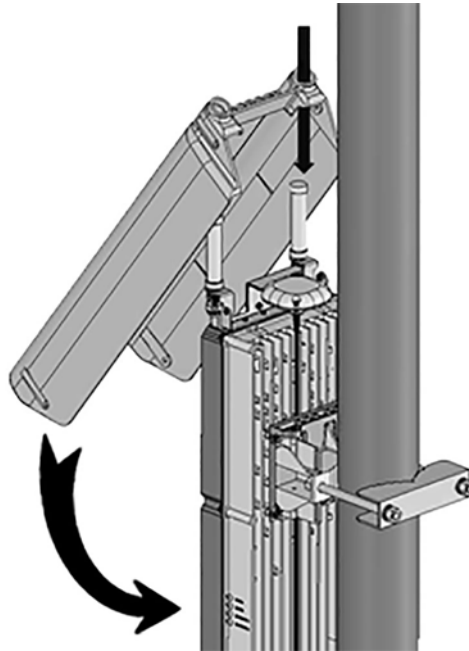

Figure 5-15 Installing solar shield
1. Install the solar shield on the assembled iRU4438 iRRH as shown in Figure 5-15.